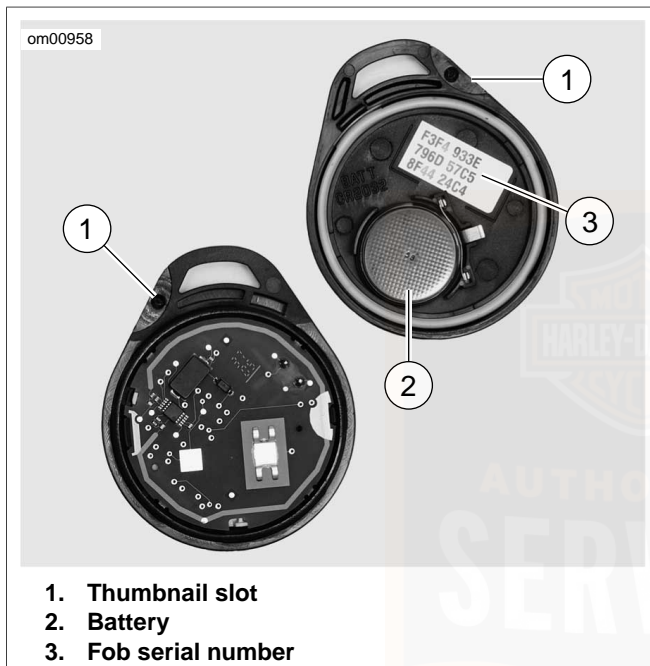

Figure 17. Hands-Free Fob Battery
1. See Figure 17. Slowly turn a thin blade in the thumbnail slot (1) on the side of the fob to separate the two halves.
2. Remove the battery (2) and discard.